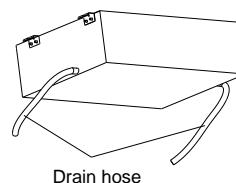
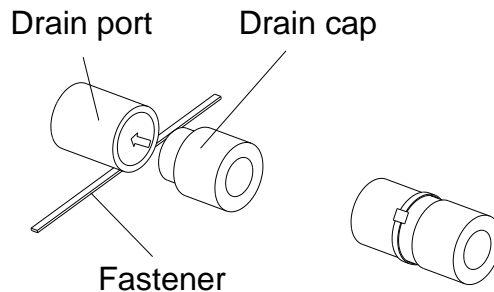

Figure 3-1-10
Figure 3-1-12
- (5) Use a suitable drain hose, and see Table 3-2-4 for its size.
- (6) There is a drain port on both the left and right sides. Select the drain port to match the local conditions.( Figure 3-1-10)
- (7) When the unit is shipped from the factory, the drain port is defaulted to be the one on the left side (electric box side), the port on right side has been plugged.
- (8) When using the drain port on the right side of the unit, reinstall the drain cap to the left side drain port.( Figure 3-1-12)